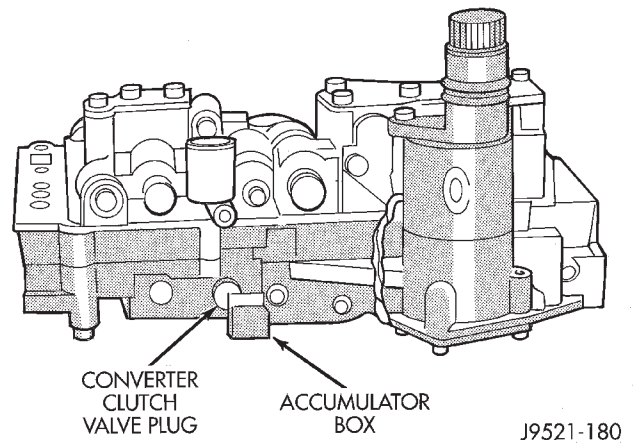

Fig. 88 Seating 3-4 Accumulator On Lower Housing VALVE BODY FINAL
(3) Install 3-4 shift valve and spring.
(4) Install converter clutch timing valve and spring.
(5) Position plug on end of converter clutch valve spring. Then compress and hold springs and plug in place with fingers of one hand.
(6) Swing accumulator housing upward over valve springs and plug.
(7) Hold accumulator housing firmly in place and install remaining two attaching screws. Be sure springs and clutch valve plug are properly seated (Fig. 88). Tighten screws to 4 N·m (35 in. lbs.).